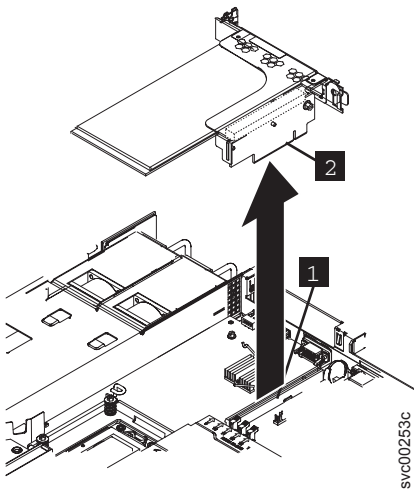

Figure 193. Removing the high-speed SAS riser-card assembly for the SAN Volume Controller 2145-CG8 or 2145-CF8
9. After removing the back-rail retaining screws for the adapter assembly, grasp the riser-card assembly at the rear edge and lift to remove the assembly, as shown in Figure 193.